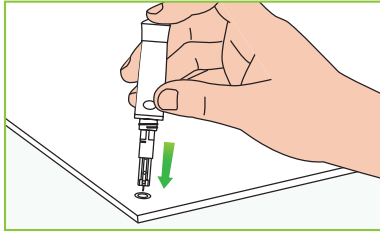

Figure 93
**1** Unscrew the lancing device cap. Firmly push the needle into the safety cap as shown in Figure 93.